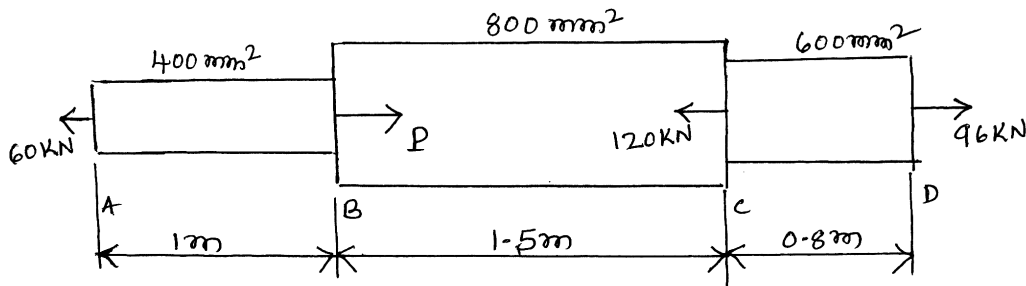

Fig. Q2(a).
- 2 a. A settle bar ABCD of varying sections is subjected to the axial forces as shown in Fig. Q2(a). Find the value of 'P' necessary for equilibrium. If $E = 210 \text{ kN/mm}^2$. Determine;